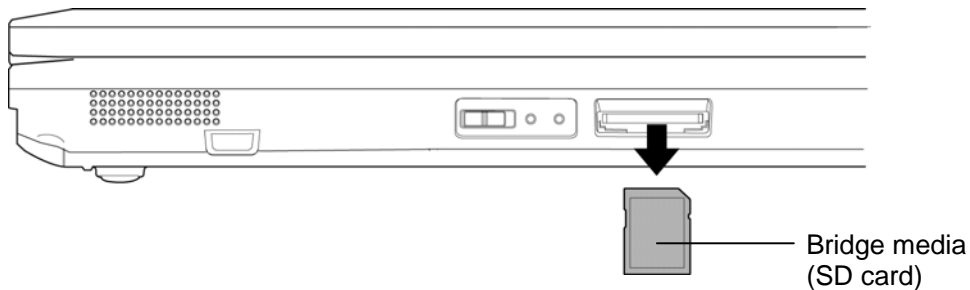

Figure 4-3 Removing the Bridge media
To remove the Bridge media, follow the steps below and refer to Figure 4-3.
1. Push the **Bridge media**. It will pop out partly when you release, so pull out the card. (For an instance, SD card is described in the Figure 4-3.)
To install the Bridge media, follow the steps below and refer to Figure 4-3.